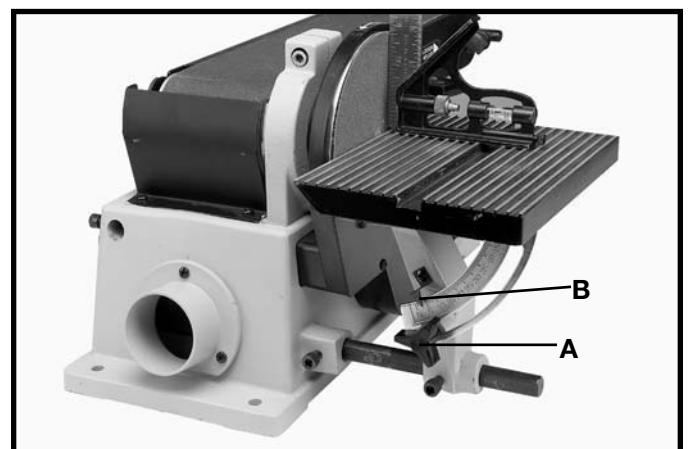

Fig. 31
2. Using a combination square, place one end of the square on the table with the other end against the sanding disc, as shown in Fig. 31, and check to see if the table is 90 degrees to the disc.
3. If the table surface is not 90 degrees to the disc, loosen table lock knob (A) Fig. 31, adjust table square with disc and tighten lock knob (A).
4. Adjust pointer (B) Fig. 31, to the 0 degree mark on the angle scale.